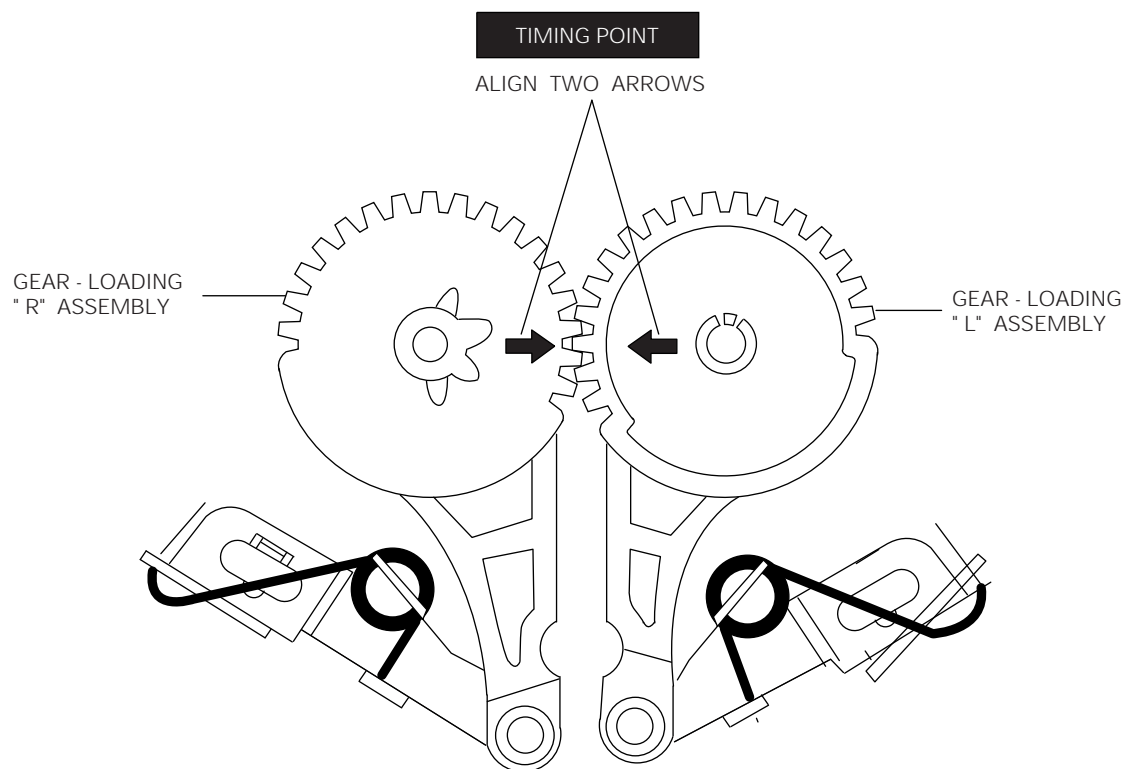

Fig. 1-52 Assembly of Gear Loading "L", "R" Ass'y
1. When reinstalling, be sure to align 2 arrow as shown in Fig. 1-52. (Refer to timing point)
2. Remove the Slide "S", "T" from the Loading "L", "R" Gear Ass'y. (Refer to Fig. 1-52)